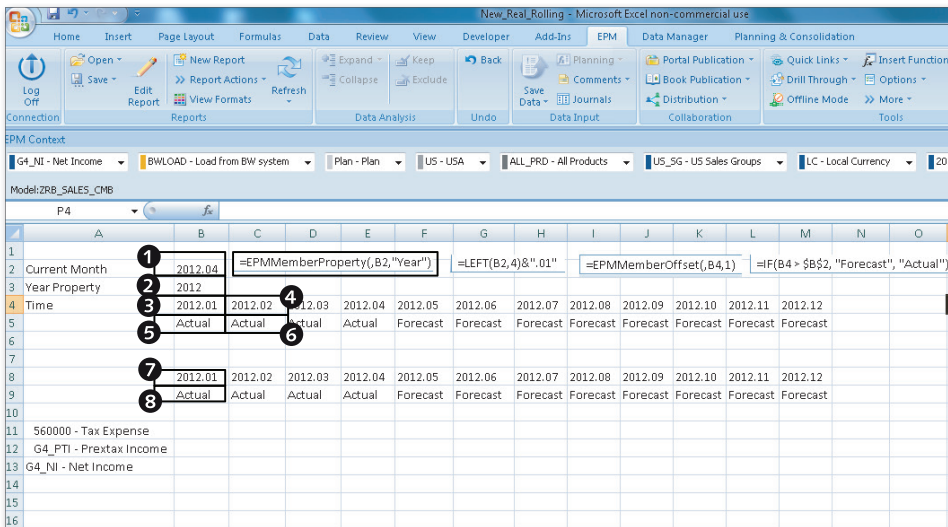
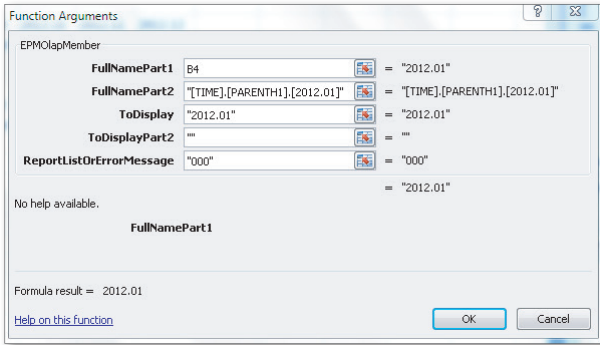

Figure 5.26 Rolling Forecast Report—Part A
Figure 5.27 Rolling Forecast Report—Part B
4. We are assuming that a property exists in the Category dimension that contains the period up to which actual data has been loaded into the model. We have included this property (with the name `CURR_MONTH`) in the Category dimension and updated it with the period for the ACTUAL category dimension member. Define an EPM function in, let's say, cell B2 that would retrieve the value of this property from the ACTUAL category dimension member (Figure 5.26, ❶).
5. Define another EPM function in cell B3 to read the year property for the time member selected in cell B2 (Figure 5.26, ❷).
6. Define an Excel formula to derive the first time periods based on an Excel formula in cell B4 (Figure 5.26, ❸).
7. Select the other 11 time periods from C4 through M4 using the EPM offset function. For example, in cell C4, you will define the following offset function (Figure 5.26, ❹):
8. You now have to select a category for each of the time periods. If actual data exists in the model for the period, we want to display the actual data. Otherwise, we want to display the forecast data. To achieve this, compare the value in cell B4 (2012.01) to the value in cell B2 (2012.04), and set the value of the category to either ACTUAL or FORECAST. Cell B2 contains the value of `CURR_MONTH` property of the ACTUAL dimension member. This formula is entered in cell B5 (Figure 5.26, ❺). In this specific scenario, direct comparison of data in cells B4 and B2 will work. However, if you named the TIME dimension members as 2011.JAN, 2011.FEB, etc., you must derive the `TIMEID` property associated to the TIME members and use the `TIMEID` property values to perform the comparison.
9. Create a similar Excel formula for the cells from C5 to M5 to derive the category for the 11 time periods in cells D4 to M4. For example, for cell C5, you will use the following formula (Figure 5.26, ❻):
10. Now, pinpoint the time members derived earlier to be used as column member selections (column keys) for the report. Use the following formula for the time member in the outer dimension in cell B8 (Figure 5.26, 7). You already will see the EPM01apMember function used in your report. You will have to change the first parameter for this function to point to the cell member you want to use in the report. The parameters used in this function are shown in Figure 5.27.
11. Similar to the previous step, pinpoint the category members derived previously to be used as column member selections for the report. Use the following formula for the category member in the inner dimension in cell B9 (Figure 5.26, 8):